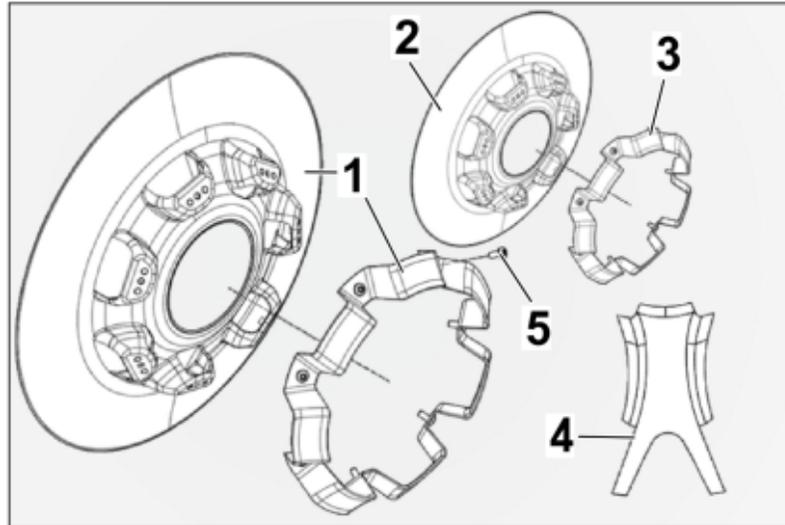

Figure 71
- ⇒ **Figure 71 -1-** – Set of wheel covers for magnesium rims — 991.044.806.27
- ⇒ **Figure 71 -2-** – Wheel cover
- ⇒ **Figure 71 -3-** – Fastening ring
- ⇒ **Figure 71 -4-** – Rim protection sticker — 991.044.806.29
- ⇒ **Figure 71 -5-** – M5 x 12 pan-head screw